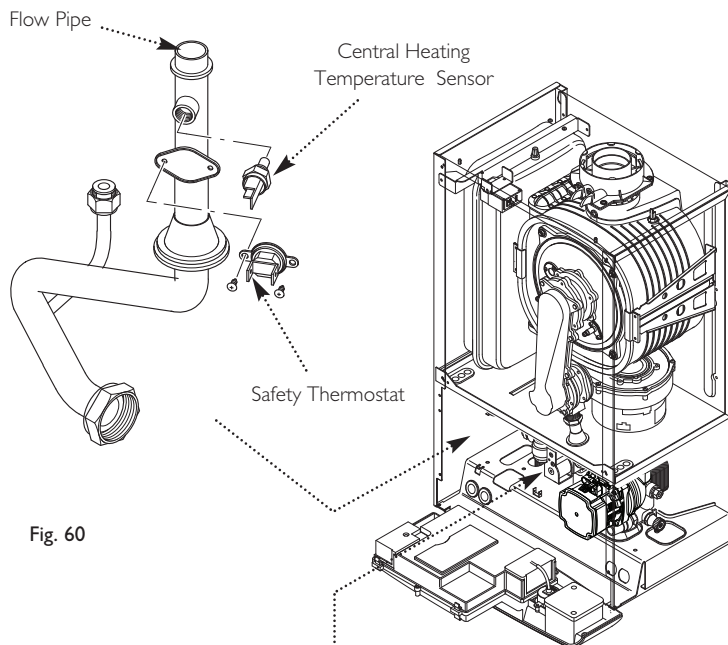

Fig. 60
13.10 Central Heating Temperature Sensor (NTC) (Fig. 60)
13.11 Safety Thermostat (Fig. 60)